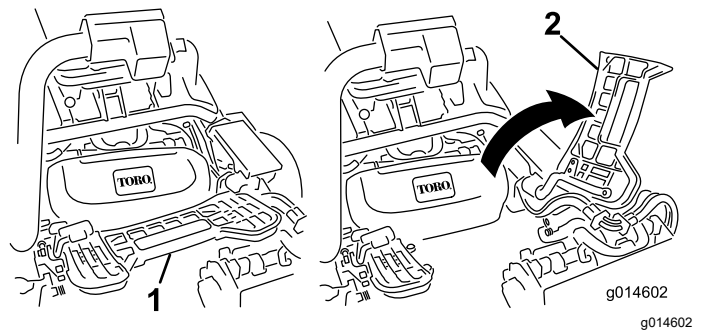

Figure 47
1. Lift up on the footrest and swing it open, allowing access to the center cutting unit position (Figure 47).